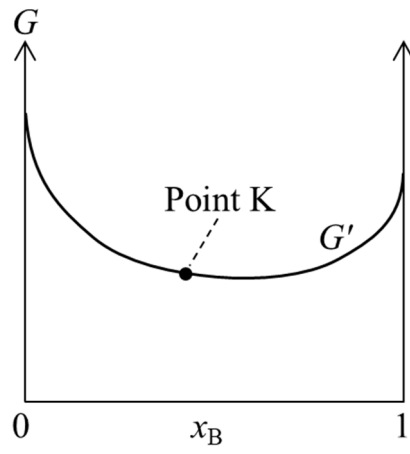

Figure 1
(2) Next, consider a binary solution composed of component A and component B in equilibrium under constant temperature and constant pressure. This solution is stable at the whole composition range. When the Gibbs energy per 1 mol of this solution is given as  $G'$ , derive  $\mu_A$  and  $\mu_B$  by using  $G'$  and  $x_B$ . Here,  $\mu_A$  and  $\mu_B$  are the chemical potentials of A and B, respectively, and  $x_B$  is the mole fraction of B.
(3) Figure 1 shows the  $G'$  curve of the binary solution considered in (2). How can  $\mu_A$  and  $\mu_B$  at the point K on the curve be determined by using the figure, based on the result of (2)? Copy Figure 1 on the answer sheet and draw its method on the figure.